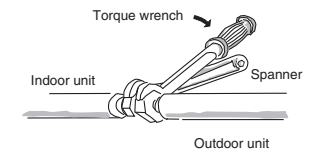

Fig. 5-6
- When removing the flare nuts from the tubing connections, or when tightening them after connecting the tubing, be sure to use two adjustable wrenches or spanners as shown. (Fig. 5-6)